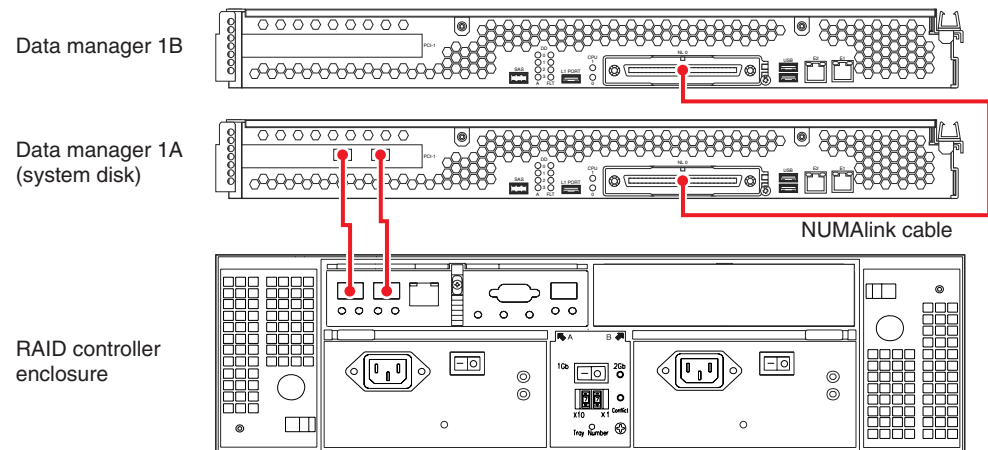

Figure 1-6 Two-Module Data Manager, Single RAID Controller Cabling
Use the following steps and Figure 1-6 to cable a two-module data manager to a single-controller RAID enclosure.
1. Connect Data Manager 1A's Fibre Channel PCI card port A (blue label [1A]) to the RAID controller's port 1 (blue label [1A]), see Figure 1-6.